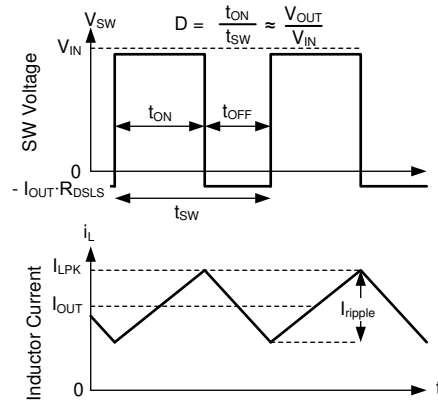

图 8-20. SW Voltage and Inductor Current Waveforms in Continuous Conduction Mode (CCM)
The following operating description of the LM6x4xx-Q1 refers to 节 8.2 and the waveforms in 图 8-20. Both supply a regulated output voltage by turning on the internal high-side (HS) and low-side (LS) NMOS switches with varying duty cycle (D). During the HS switch on-time, the SW terminal voltage, V_{SW} , swings up to approximately V_{IN} , and the inductor current, i_L , increases with a linear slope. The HS switch is turned off by the control logic. During the HS switch off-time, t_{OFF} , the LS switch is turned on. Inductor current discharges through the LS switch, forcing V_{SW} to swing below ground by the voltage drop across the LS switch. The regulator loop adjusts the duty cycle to maintain a constant output voltage. D is defined by the on-time of the HS switch over the switching period: $D = T_{ON} / (T_{ON} + T_{OFF})$.